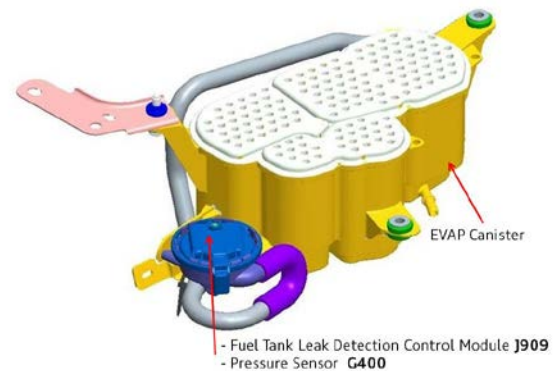

Figure 3. Integrated sensor and control module.
- Integrated fuel tank pressure sensor, G400, and fuel tank leak detection control module, J909 (Figure 3).